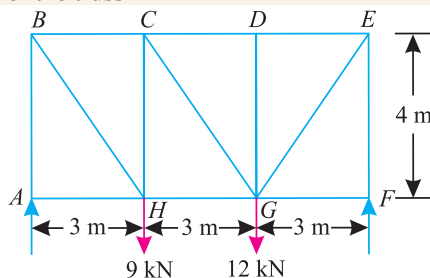

Fig. 13.22.
4. A 9 m span truss is loaded as shown in Fig 13.22. Find the forces in the members  $BC$ ,  $CH$  and  $HG$  of the truss.